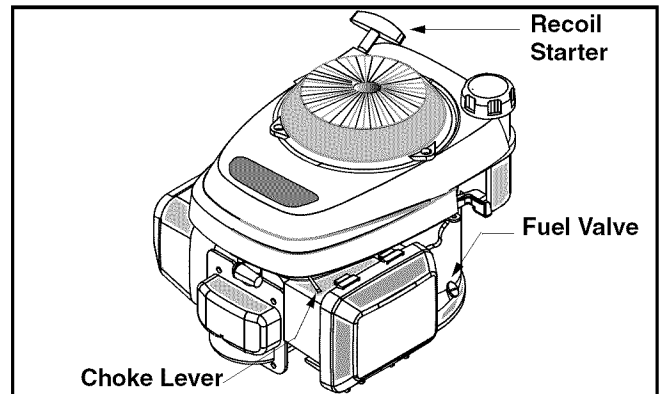

Figure 9
- Make sure the fuel valve lever found on the left side of the engine is in the ON position. See Figure 9.